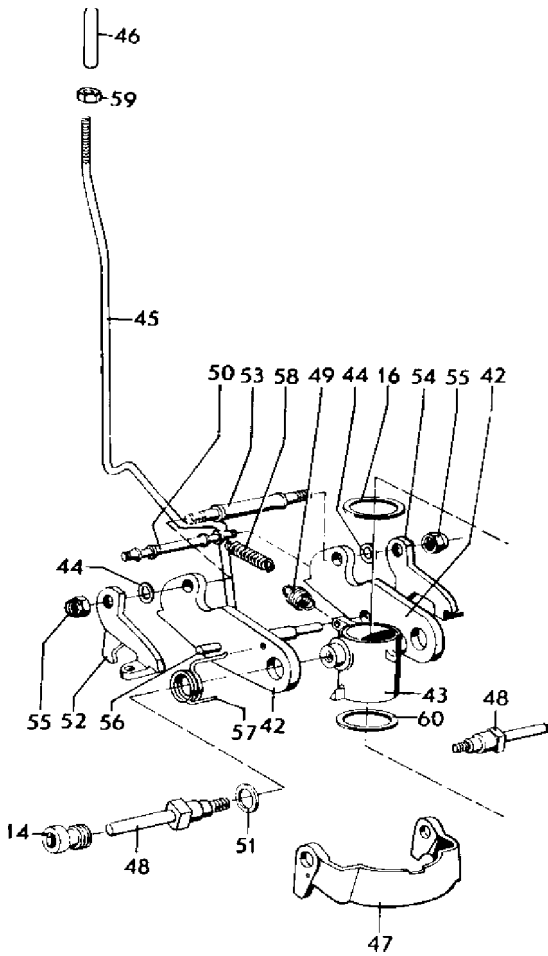

Fig. 27.
Remove the shaft pins, Fig. 27 (48, Fig. 58). Take off the spring (57) as well as the spring (49) and release the springs (58).
**NOTE:** Grip the spring shaft (50) so that it does not fly off. Unscrew the nuts (55), remove the spring hooks (52 and 54) and spacer washers (44), also the retaining pawl (42). Lift off the journalling (43), the shaft (53) and the thrust rod (45).
1. Fit the shaft, Fig. 27 (53), on one of the retaining pawls (42) and the spacer washer (44) as well as the spring hook (52). Screw one of the nuts (55) onto the shaft. Then place the thrust rod (45) on the stop shaft (56) and fit the journalling (43) in the retaining pawl half. After this place the thrust rod (45) and the stop shaft (56) in the retaining pawl half. Now fit the other retaining pawl (42) and the spring hook (54) with the spacer washer (44) on the shaft (53) and the journalling (43). Screw tight the other nut (55).